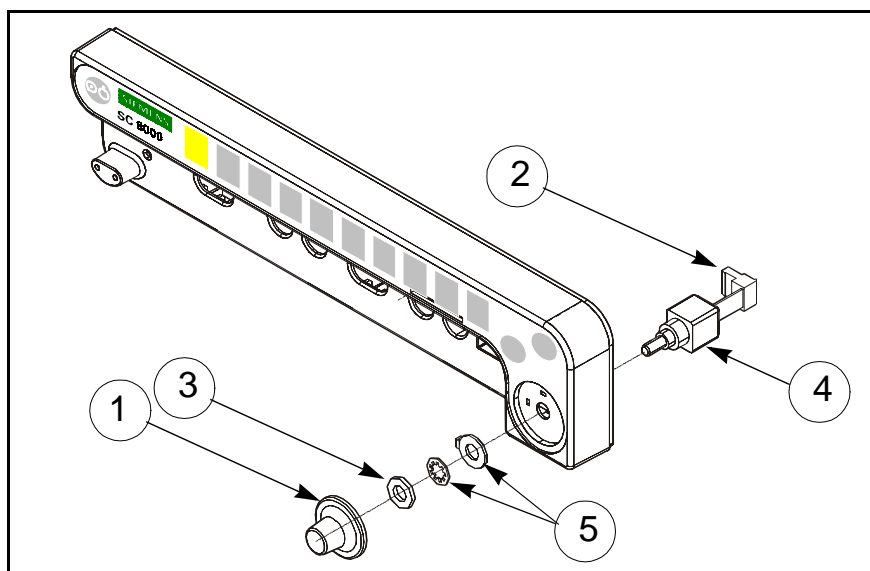

Figure 3-4 Optical Encoder Subassembly Removal/Replacement
- 1) Remove rotary knob (① in Figure 3-4).
- 3) Unplug optical encoder ribbon cable connector (② in Figure 3-4) from front panel interface board of Connector I/O PCB subassembly.
- 4) Unscrew nut ③ securing optical encoder shaft in position in front bezel, and remove optical encoder subassembly ④ through back of panel. Save nut, and lock washer / positioning washer combination ⑤ for use in reassembly.